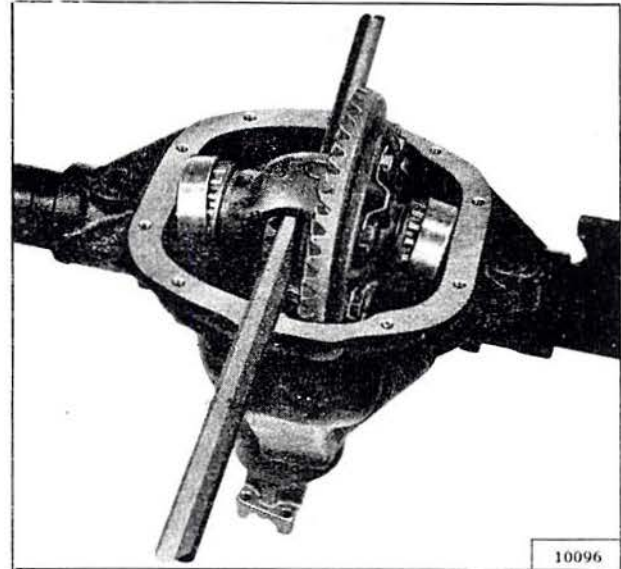

FIG. 240 REMOVING DIFFERENTIAL
d. Should the spreader tool be unavailable, use two pry bars, one on each side of the differential case opening, to pry out the differential as shown in Fig. 240.